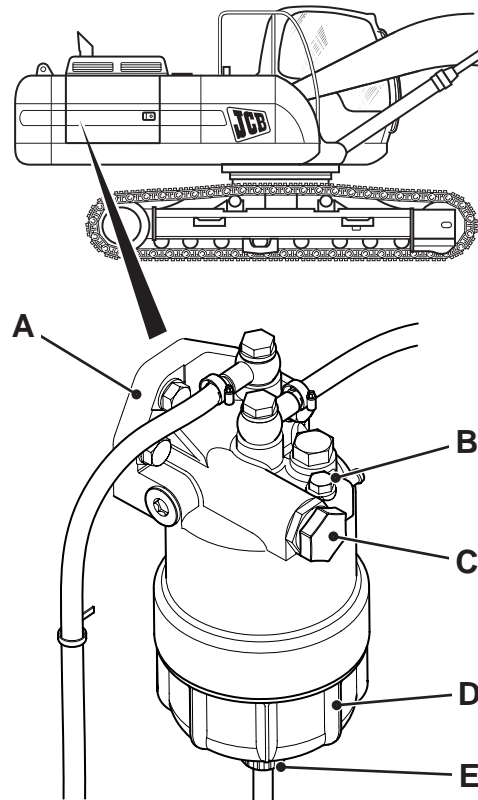

Fig 51.
- 2 Locate the fuel filter **A**, ⇒ Fig 51. \(□ 3-72\).